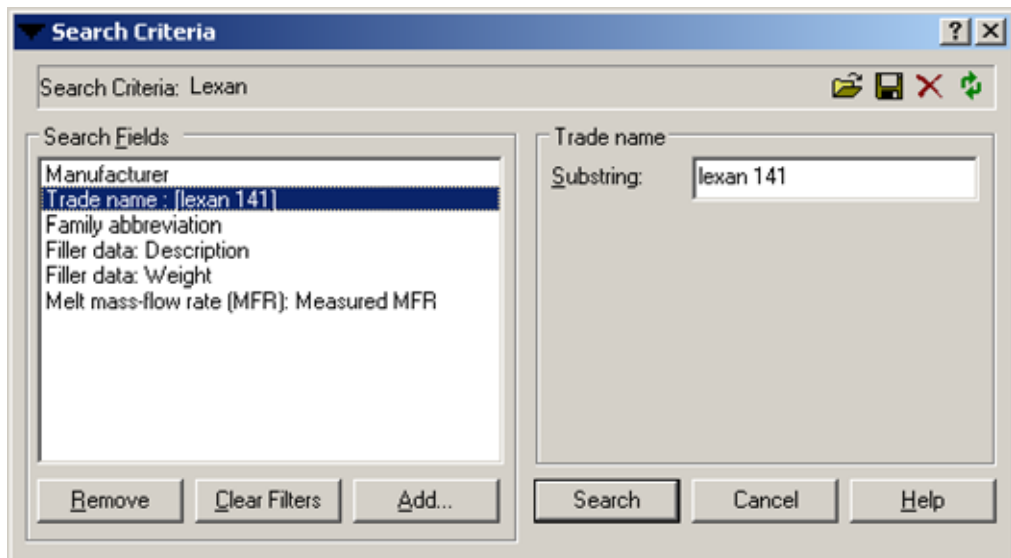

Figure 86: Search Criteria dialog
3. In the **Substring** text box on the right, enter **lexan 141**, as shown in Figure 86.